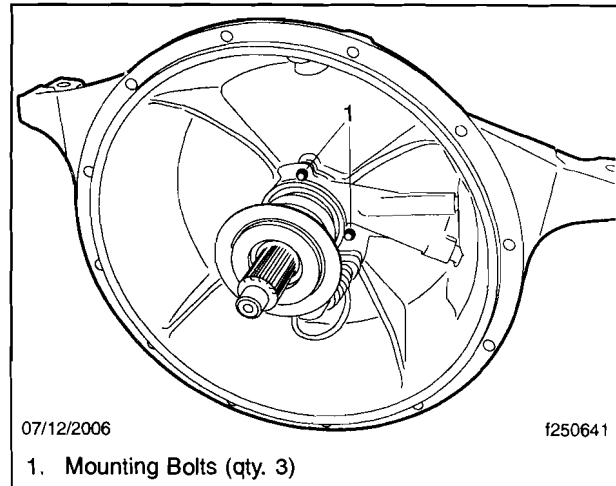

Fig. 9, Clutch Release Bearing Mounting
19. Remove the three bolts that attach the release bearing assembly to the clutch housing. See **Fig. 9**.